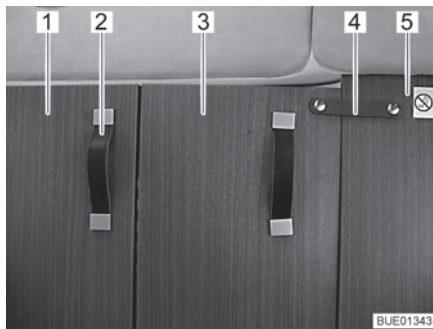

Fig. 53 Driver's cabin partition, closed
- Pull the driver's cabin partition (Fig. 53,1) completely inwards using the handle (Fig. 53,2).
- Using the securing strap (Fig. 53,4), secure the folding section of the driver's cabin partition (Fig. 53,3) to the fixed partition wall (Fig. 53,5) behind the front passenger seat.